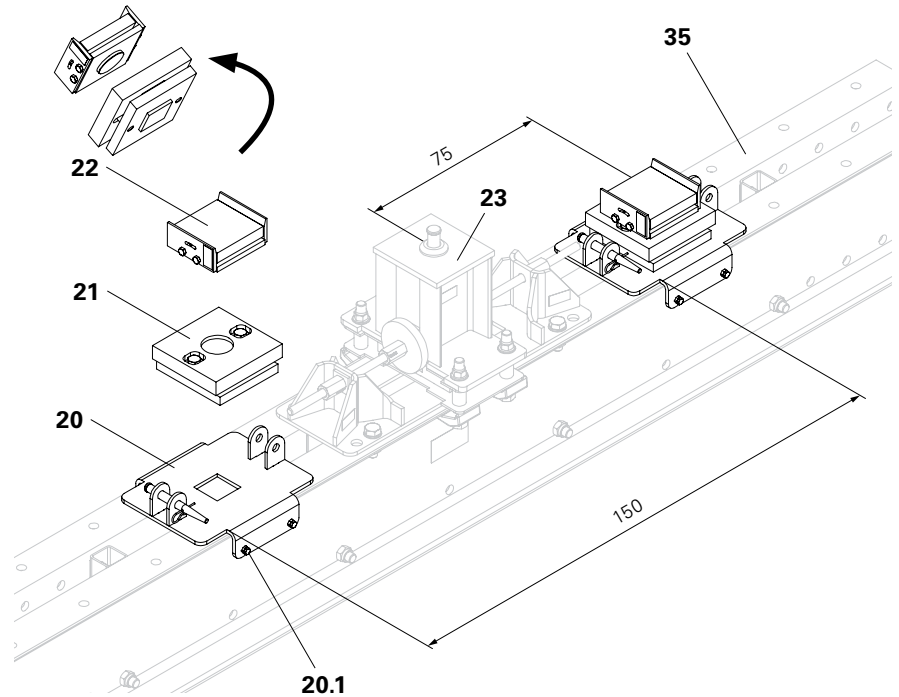

Fig. A4.05
1. Place the Centering Plate (20) on the Main Beam (35). The spacing to the Horizontal Bearing (23) is centre - centre 75 cm.
3. Place the Cross Fall Bearing (21) on the Centering Plate.
4. Position the Longitudinal Bearing (22) on the Cross Fall Bearing.
- (Fig. A4.05)
The spacing of both supports is 150 cm (Fig. A4.05).